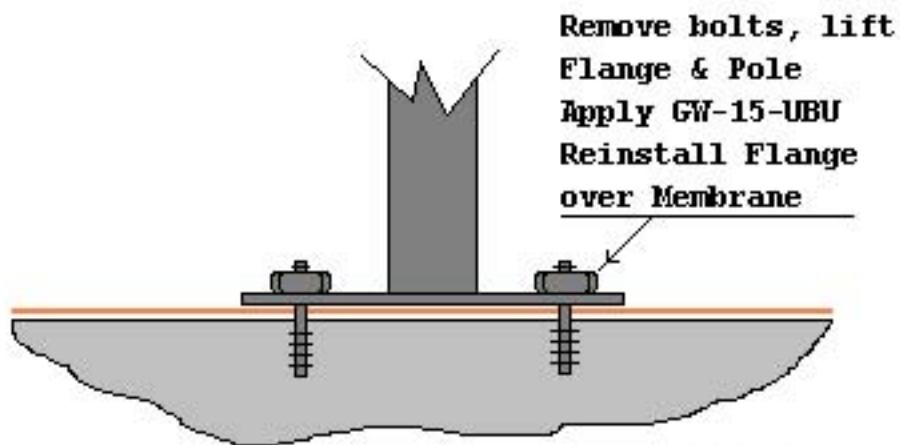
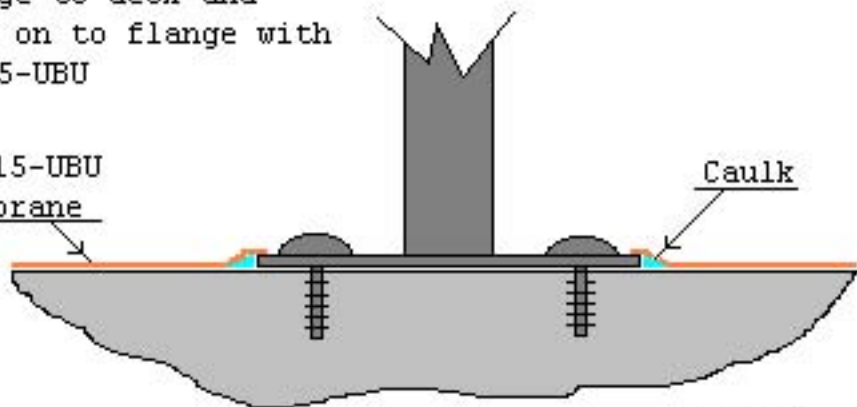

Fig.3
Fig.4
- (B) Walk the perimeter of the deck and make notes on the flashing terminations and the materials required to install flashing. Note light and sign standards and the plate mounts. Some plates can be removed and waterproofing installed under the plate. (See: GW-15 Details, Fig. 3) The plates can then be reinstalled over the deck coating. Where the plates can not be removed, plan to install a caulk cove and then over coat the caulk and flange areas with the deck coating. (See: GW-15 Details, Fig. 4)